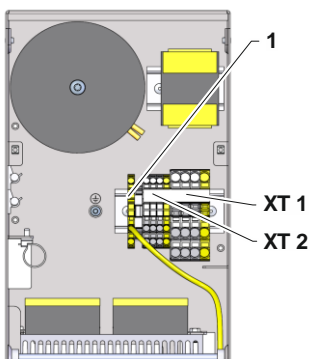

Fig. 4: View electrical part
12. Terminal 3-pol. With earthing wire of the ZO interface on the support rail (marking 1 → Fig. 4) for XT 1 or XT 2 attach.